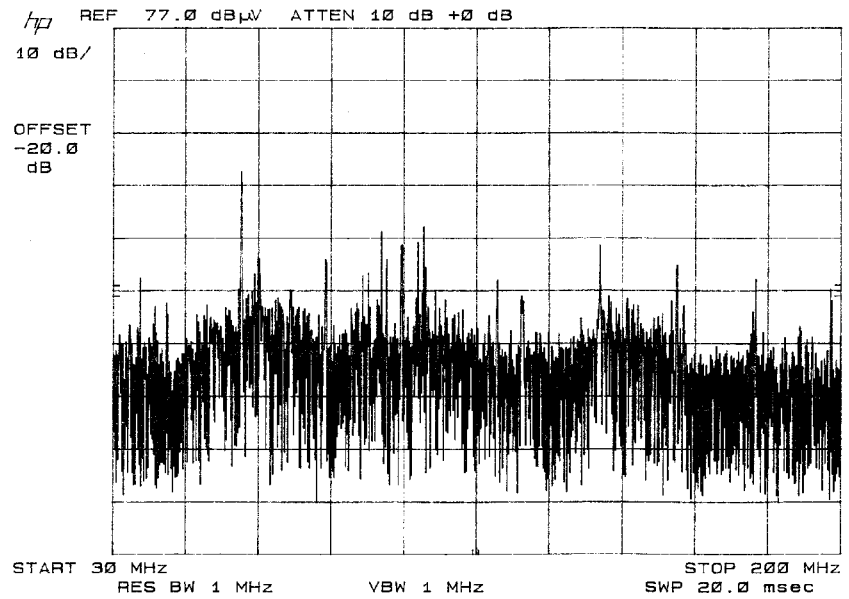

Figure 4-19. Characteristic Appearance of Radiated Emissions
- The appearance of signals provides a third clue about their origin. Ambient signals often have characteristic appearances, as do emission from many devices being tested. See Figure 4-19.